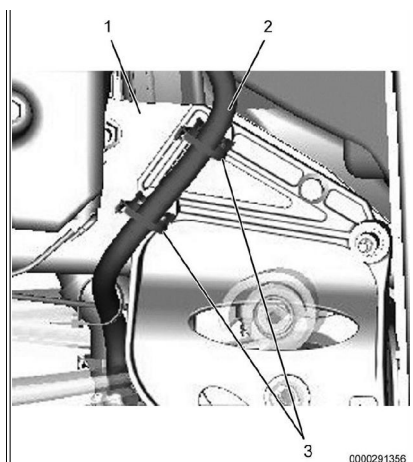

Figure 17: Frame Mounted Heater Hose Routing.
11. Using two 3948245C1 spin huck saddles and four tie straps (Figure 17, Item 3), secure heater hose (Figure 17, Item 2) to frame (Figure 17, Item 1).